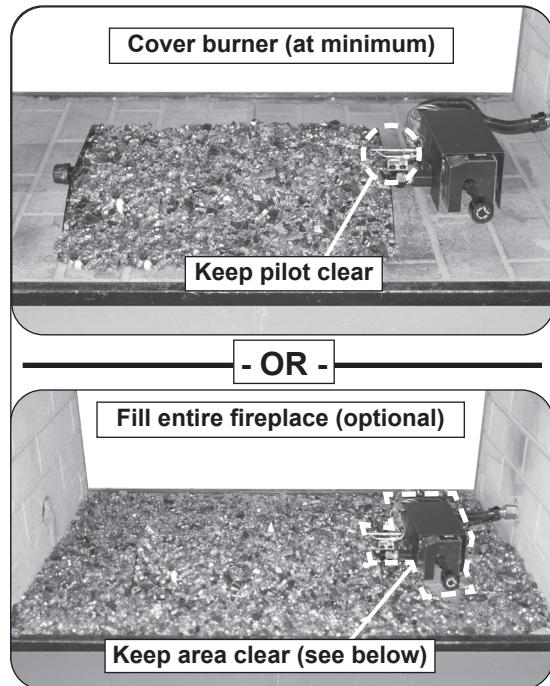

Fig. 22-1 Glass media placement
1. After the required sand/vermiculite and screen have been placed, pour the glass media (glass, gems) so that the burner pan is covered completely and evenly (see Fig. 22-1).
- **DO NOT place any glass media directly on the pilot assembly, on or within the heatshield, or under a knob if one exists at the front of the valve (see Fig. 22-1 and Fig. 22-3).**
2. Complete placement by pouring the remaining glass media on the floor of the fireplace, around all sides of the burner system (see Fig. 22-1).